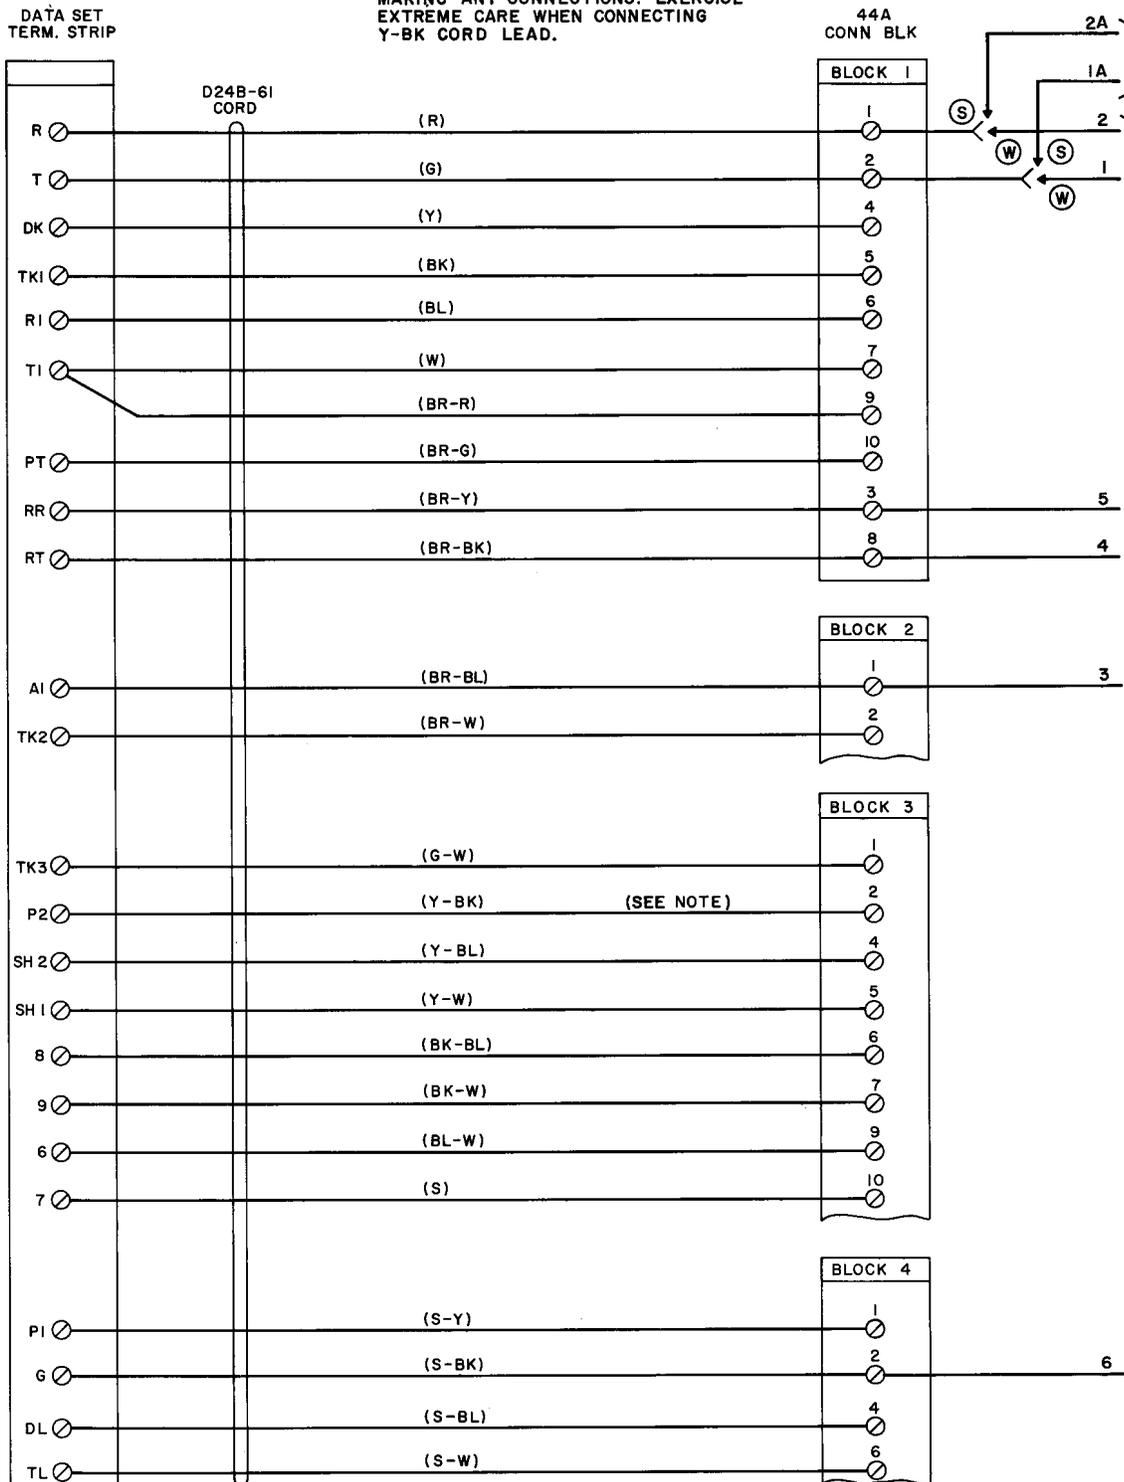
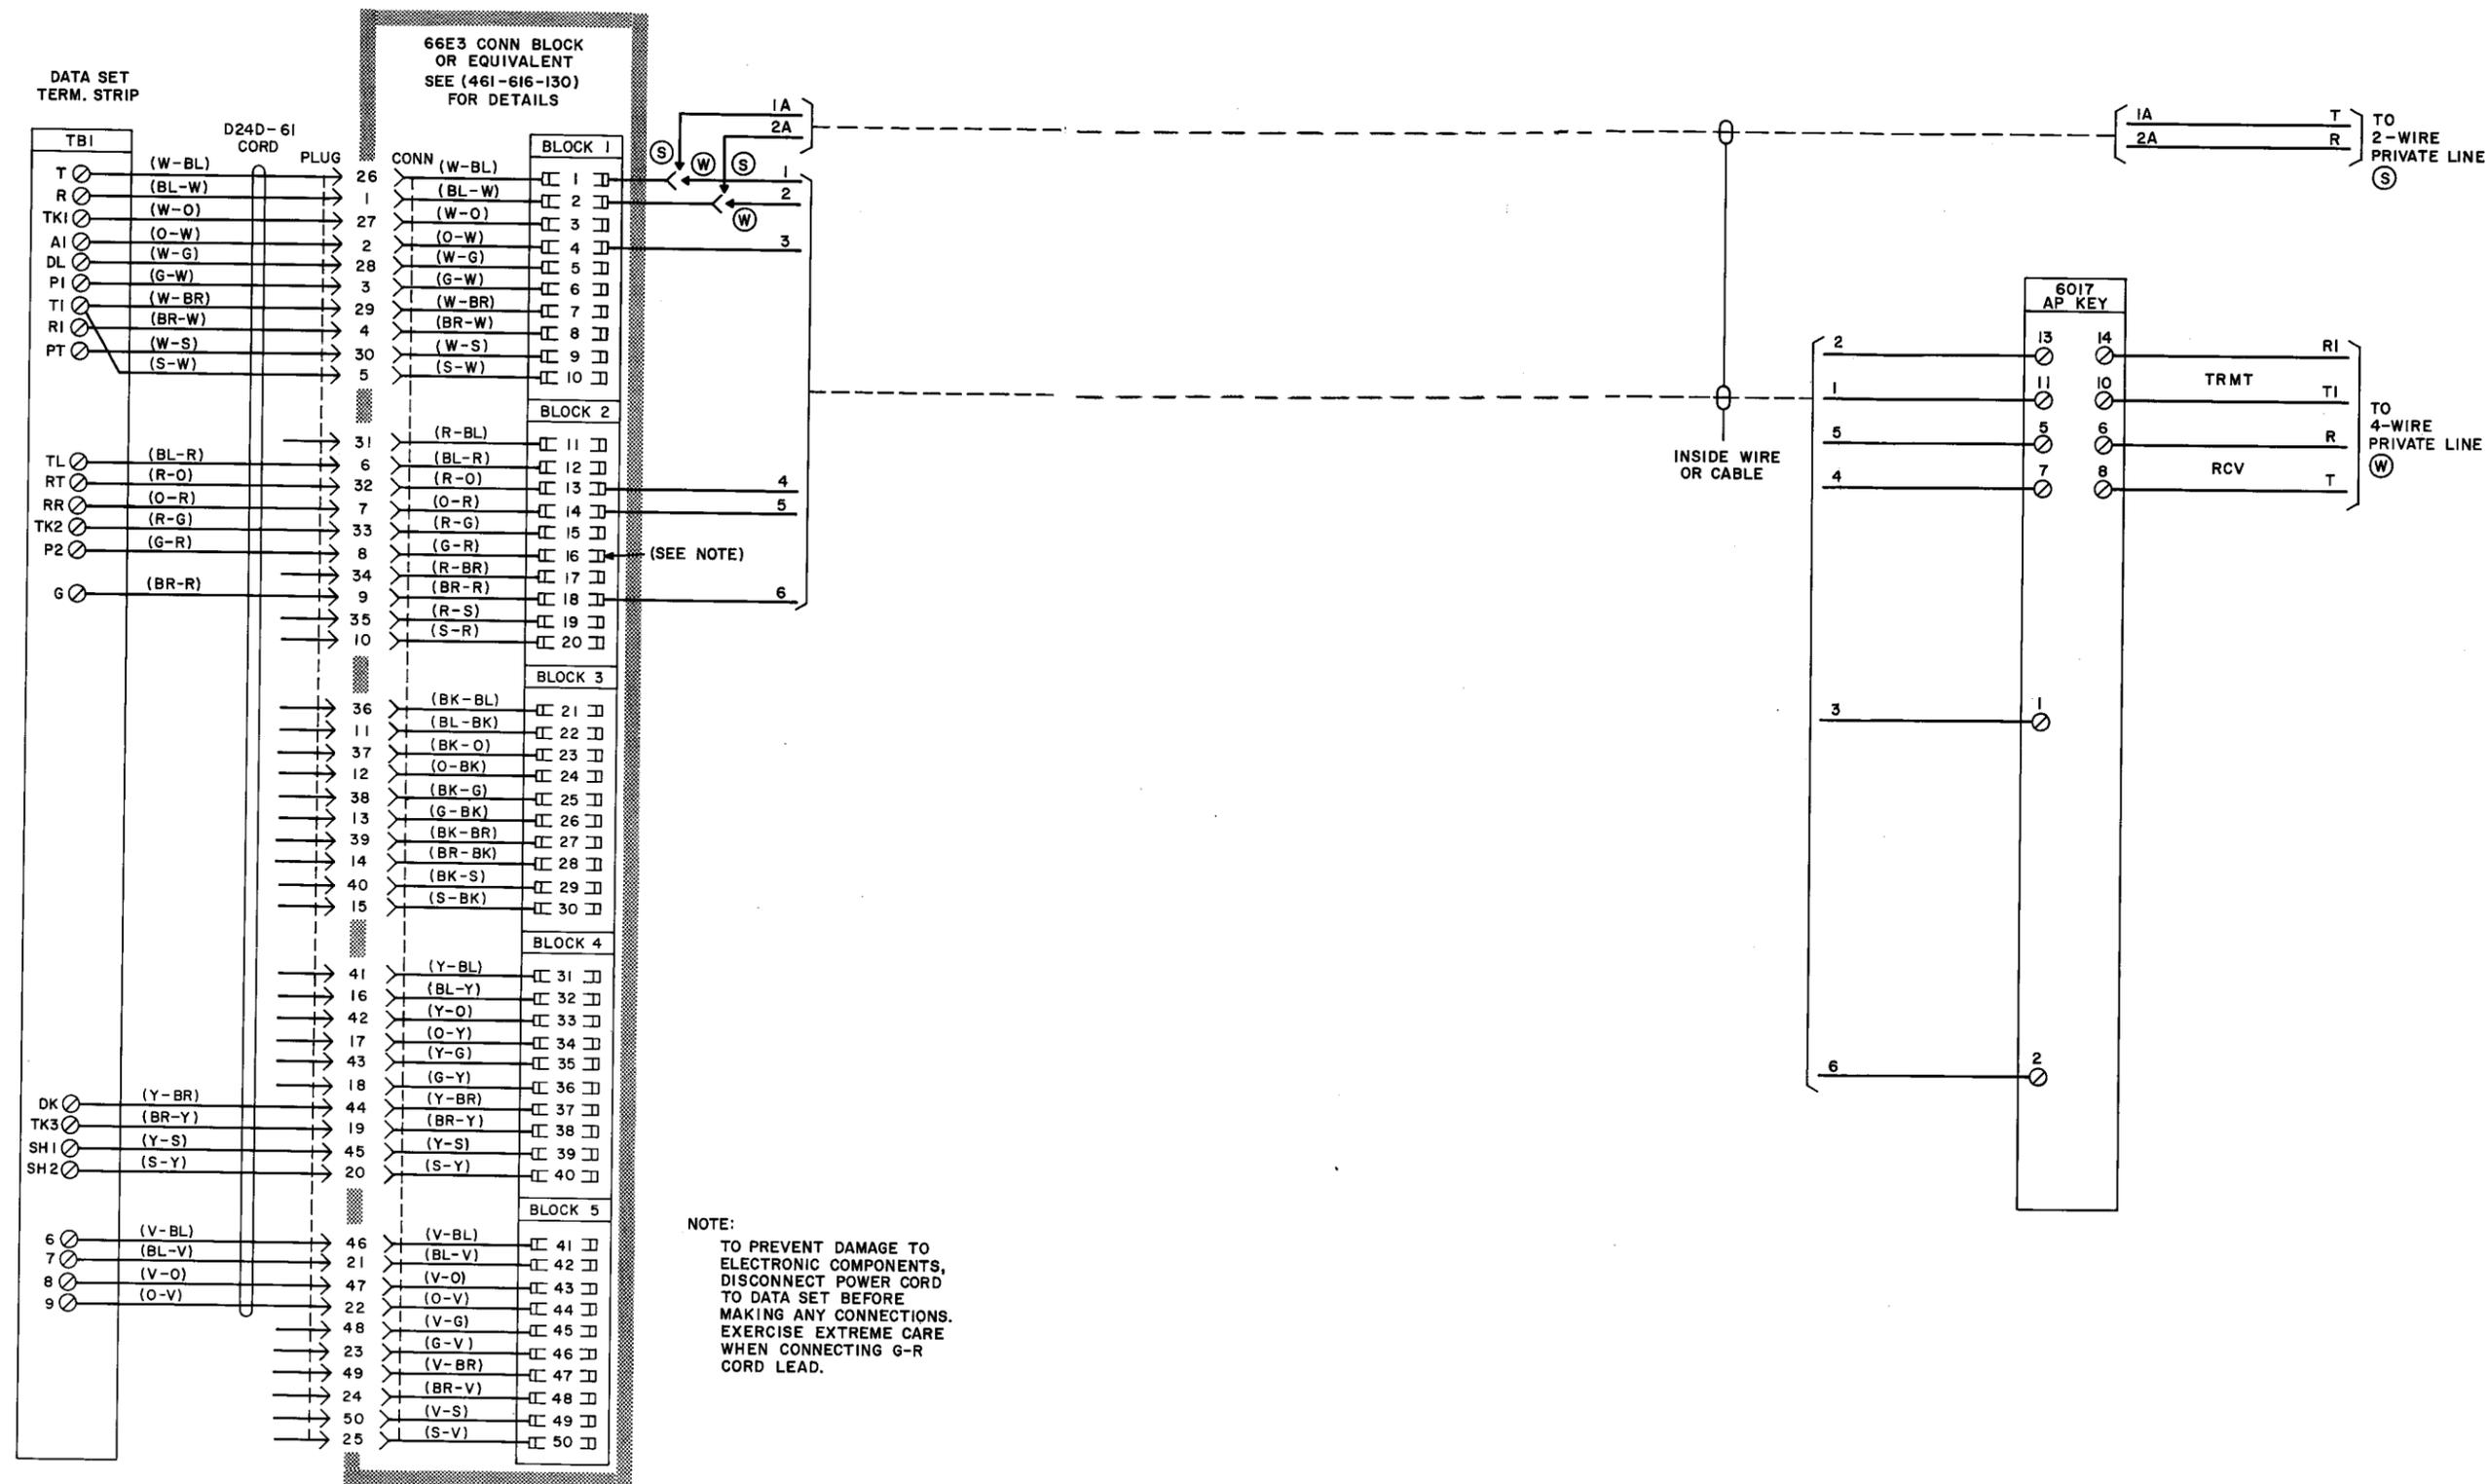

Fig. 2 — Data Set 202B Equipped With D24B-61 Cord For Fig. 3
Fig. 3 — Interconnections For 2- or 4-Wire Private Line Without Telephone Set (Data Set 202B Equipped With D24D-61 Cord)
**2.03** Interconnections and line connections for the various service features are shown in Fig. 2 through Fig. 11. Separate figures have been prepared as overlays for data sets equipped with the D24B-61 (ZG option) mounting cord.
- (a) Fig. 2 — Data Set 202B Equipped With D24B-61 Cord (Overlay for Fig. 3).
- (b) Fig. 3 — Interconnections for 2- or 4-Wire Private Line Without Telephone Set (Data Set 202B Equipped with D24D-61 Cord).